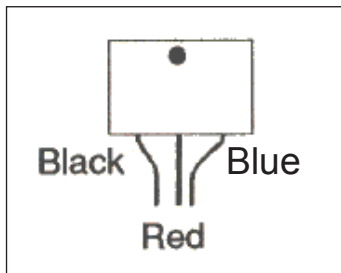

Figure 7
- 7 Run the new stat panel wires through the wooden frame wire channel. Place the edge of the stat into the frame while pulling the wire slack snug to allow the stat panel to fully rest in the channel. Apply even pressure in the middle of the back of the stat panel allowing it to pop into the frame grooves (figure 7).